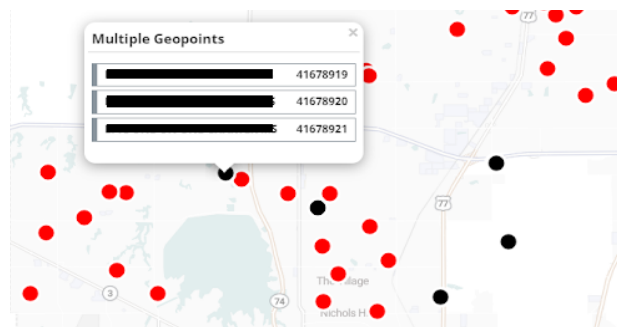

Figure 93 - Multi-Order stop
- Click on the black dot to see the list of Orders; click on the individual Order to see the details (see *Figure 93*).